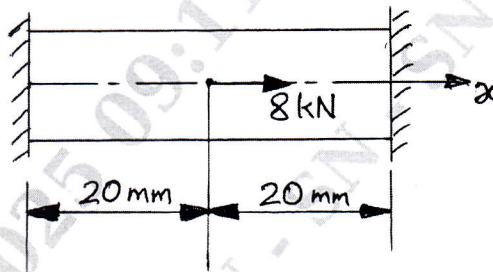

Fig.Q.2(b)
- b. Use Rayleigh-Ritz method to find stress at mid point of a bar shown in the Fig.Q.2(b). Take $E = 70 \text{ GPa}$, $A = 100 \text{ mm}^2$. Assume the displacement model to be a second order polynomial. (14 Marks)